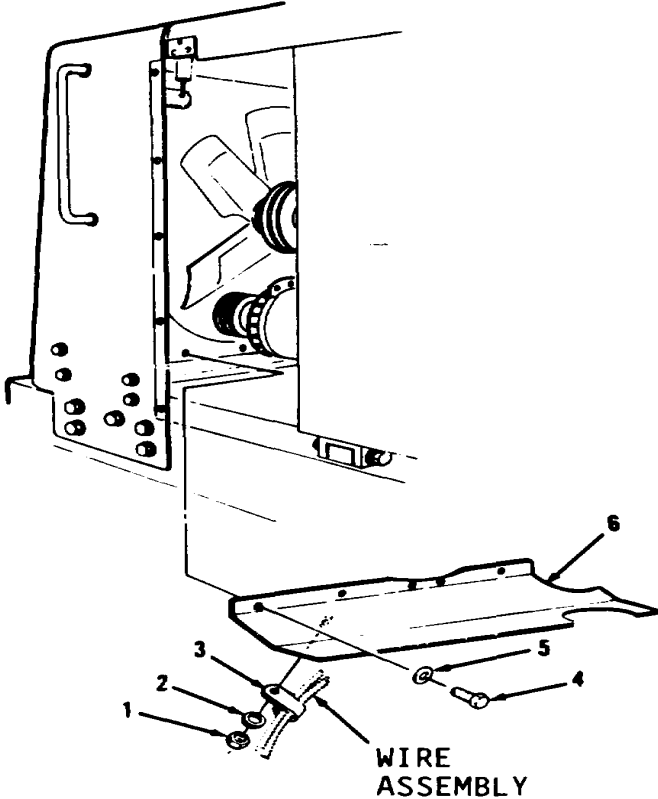
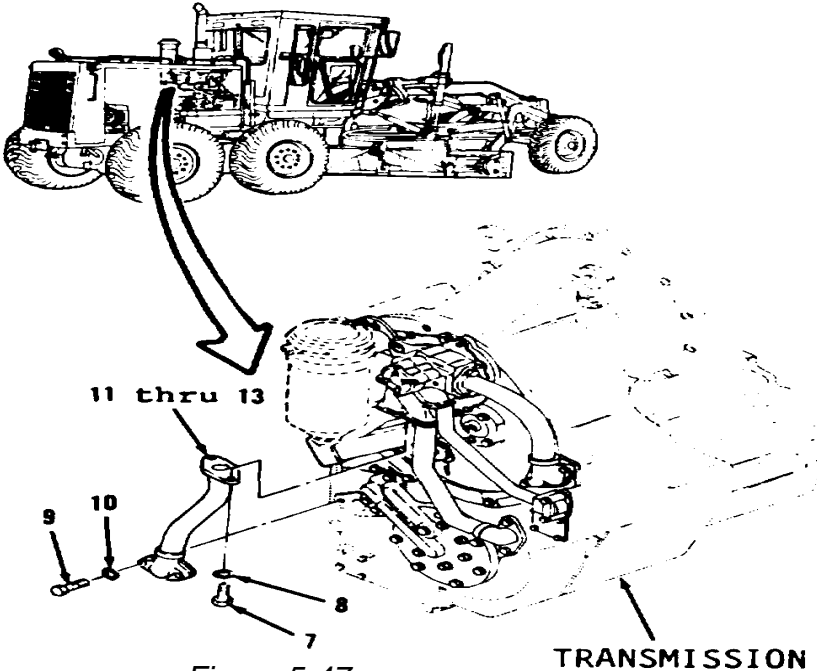
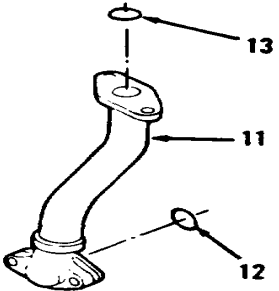

Figure 5-46.
Figure 5-47.
Figure 5-48.
1. Remove three nuts (1), washers (2) and clips (3) from under plate (6, Figure 5-46) at rear of engine compartment. Move wire assembly to one side.
2. Remove five bolts (4), washers (5) and plate (6).
3. Remove two bolts (7), lockwashers (8), bolts (9), lockwashers (10) and items 11 thru 13 as an assembly (Figure 5-47).
4. Remove and discard preformed packings (12 and 13) from tube (11, Figure 5-48).
9. Install new preformed packings (13 and 12) in tube (11, Figure 5-48).
10. Position items 13 thru 11 as an assembly and install two lock-washers (10), bolts (9), lockwashers (8) and bolts (7,
11. Install plate (6), five washers (S) and bolts (4, Figure 5-46).
12. Install three clamps (3), washers (2) and nuts (1) under plate (6).